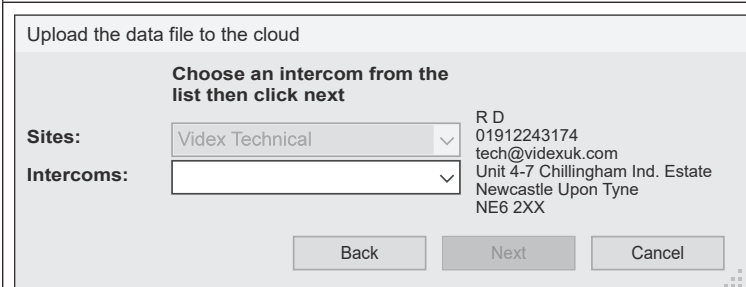

Fig. 109
5. Click on the **'NEXT'** button and the intercoms drop down list will appear (just below the sites drop down list), as shown in **Fig.109**.